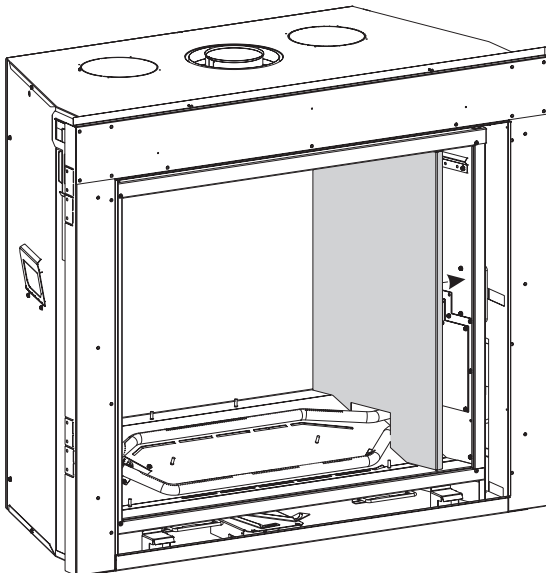

Figure 4
2. Place LINER SIDE- RIGHT against right firebox wall and LINER REAR and push back to hold into place. Repeat for LINER SIDE - LEFT. (See Figure 4)